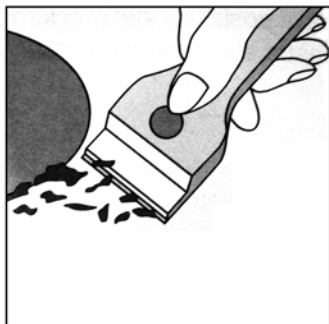

Fig.1
**CERA**  (not supplied) (Fig. 1).